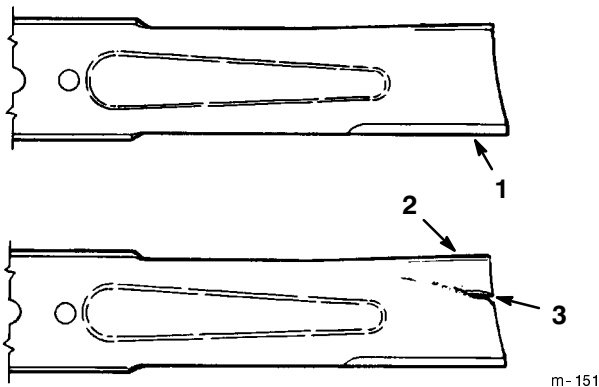

Figure 30
2. Inspect the cutting edges (Fig. 30). If the edges are not sharp or have nicks, remove the blade(s) and sharpen them; refer to Sharpening the Blade(s), page 29.
3. Inspect the blade(s), especially the curved area (Fig. 30). If you notice any damage, wear, or a slot forming in this area (Fig. 30), immediately install a new blade.